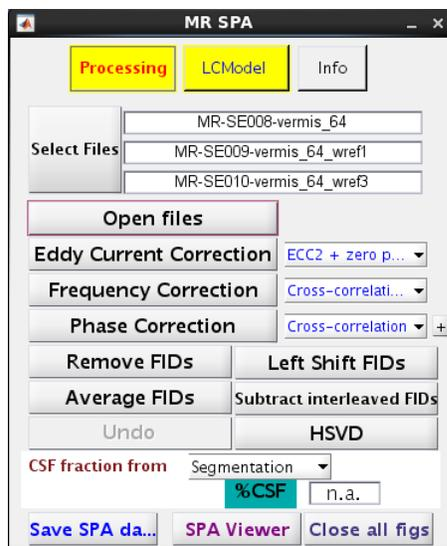

Figure 5: After opening the file(s), the appropriate buttons are enabled.
- To load the file(s), click on **Open files** on the MRspa main GUI. Based on the selected files, the appropriate buttons for processing are enabled (*Figure 5*). In addition, the *SPA Viewer GUI* opens up and the spectrum is displayed in **Sum** mode (more details in the next section).